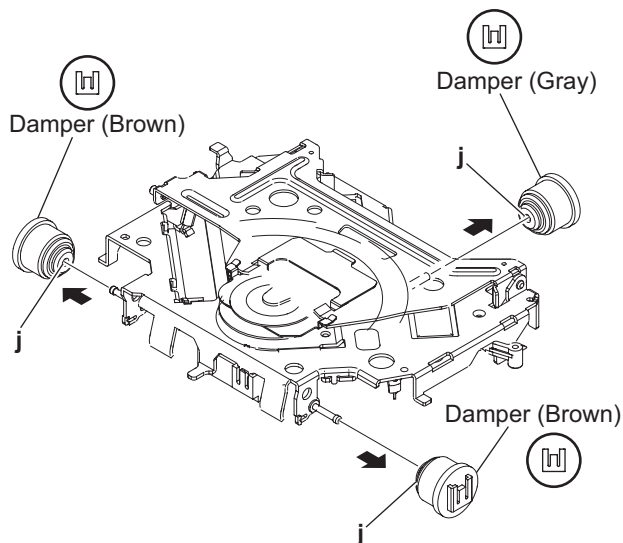

Fig.16
3.2.8 Removing the damper (See Fig.16)